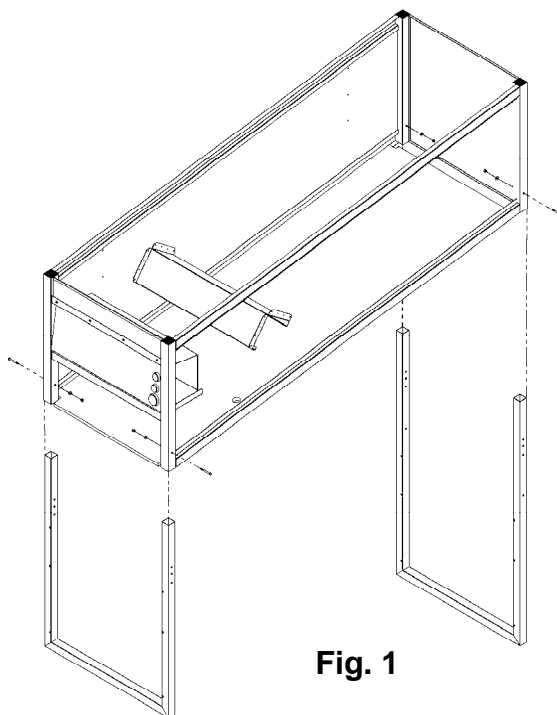

Fig. 1
3. Locate the two "U" shaped legs, and insert them into the bottom of the frame. At the front of the frame, use the set of holes closer to the bottom of the legs. At the rear of the frame, use the holes closer to the top of the legs. Secure with (4) 1/4-20 X 2 1/2" bolts, (8) flat washers and (4) Nylock nuts. (See Fig. 1)